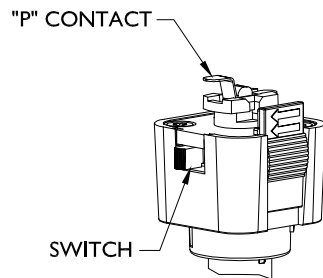

FIG. 5
1. Raise "P" CONTACT to high position by pulling CONTACT as high as stop permits. FIG. 5